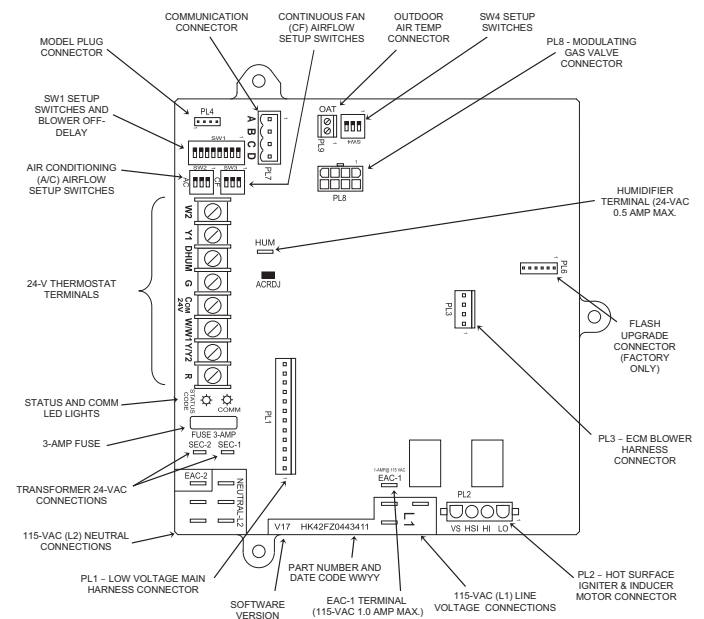

Fig. 23 – Example of Modulating Furnace Control for ECM Blower Motor
1. Turn Setup Switch SW1-2 on furnace control ON, see Fig. 23.